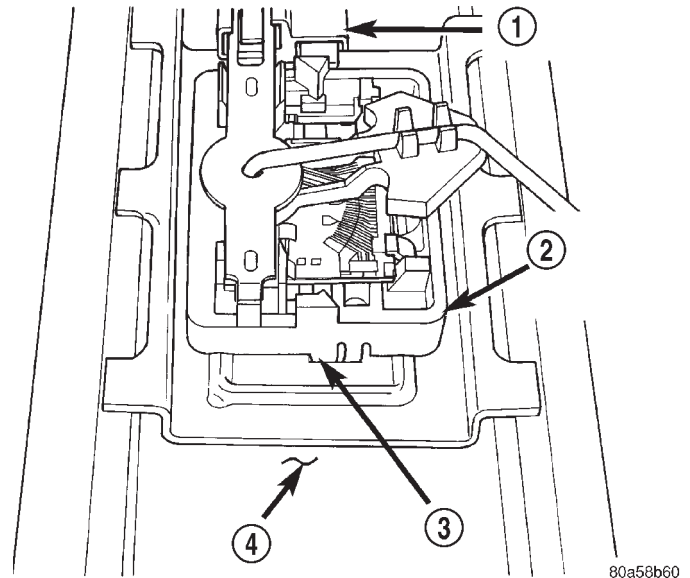

Fig. 28 Fuel Gauge Sending Unit Release Tab
(1) Remove fuel tank. Refer to Fuel Tank Removal/Installation.
(2) Remove fuel pump module. Refer to Fuel Pump Module Removal/Installation.
(3) Remove electrical wire connector at sending unit terminals.
(4) Press on release tab (Fig. 28) to remove sending unit from pump module.